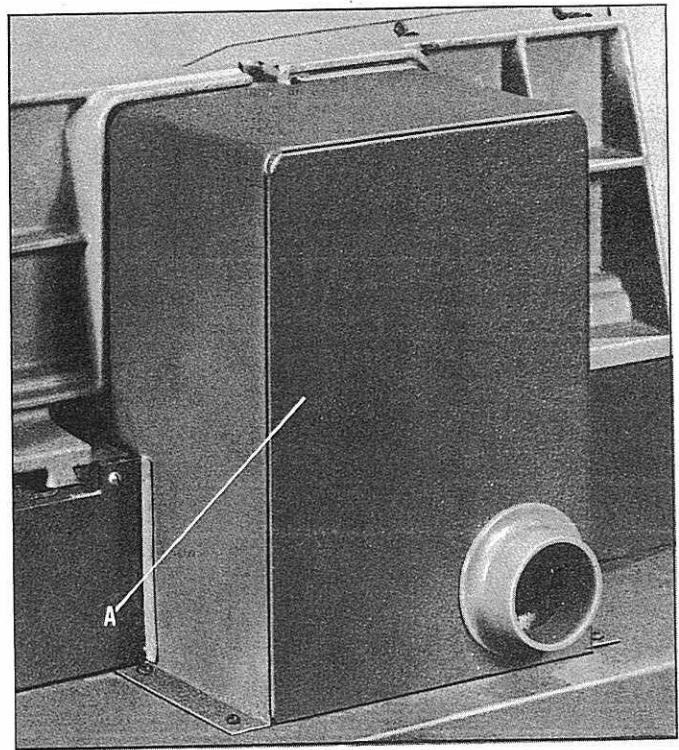

Fig. 32.
The belt and pulley guard (A) is assembled to the rear of the cutterhead as shown in Fig. 32. It is fastened to the cabinet by four self tapping screws.